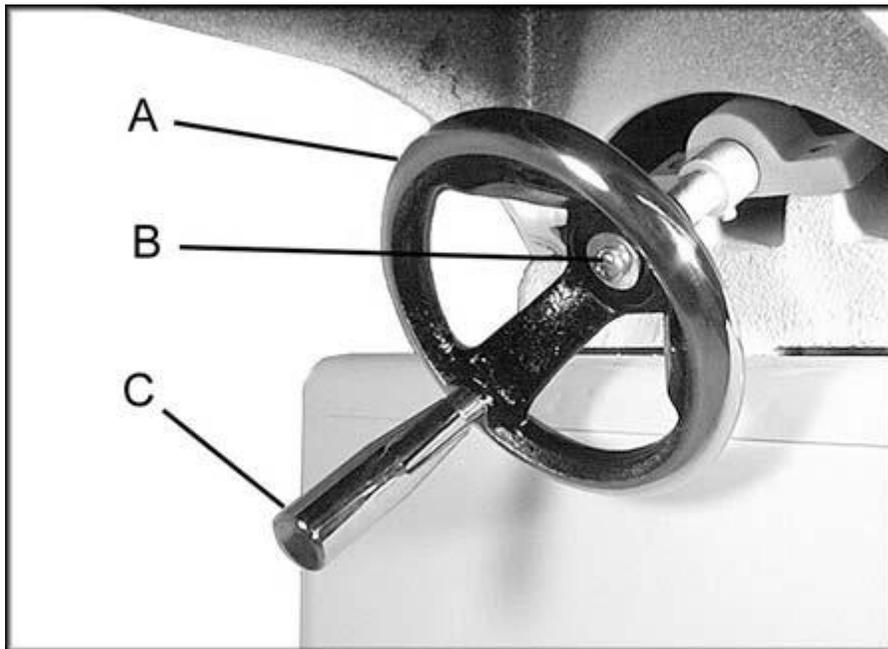

FIGURE 4
2. Press handwheel (A, Fig. 4) onto shaft, aligning the keyway with the key. If necessary, use a hammer with a block of wood to tap the handwheel completely onto the shaft.
3. Re-install screw and washer (B, Fig. 4).
4. Mount handle (C, Fig. 4) onto handwheel.
Place the two bases (A, Fig. 5) onto each end of the bar (B, Fig. 5). Snap the four E-rings (C, Fig. 4) into the grooves on the bar as shown, one E-ring on each side of a base.